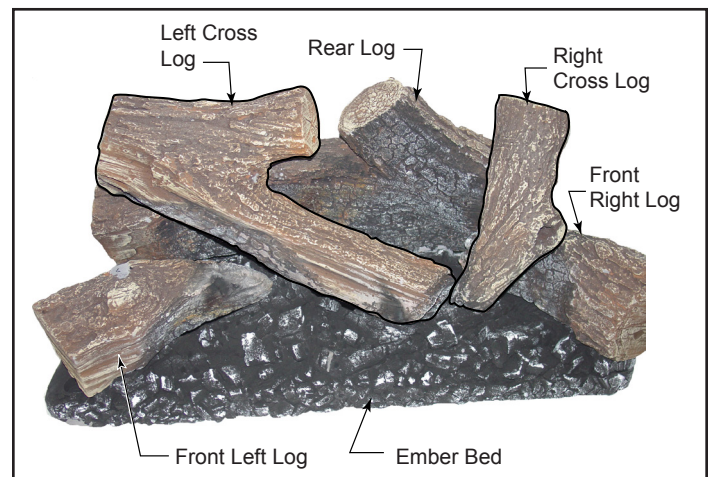

**Figure 3.28** - Ribs for Logs
3. Install the front left and right logs (Figure 3.29) by placing them on the ribs shown in Figure 3.26. Make sure the logs line up with the flat spots on the ember bed intended for location purposes. (Figure 3.28)